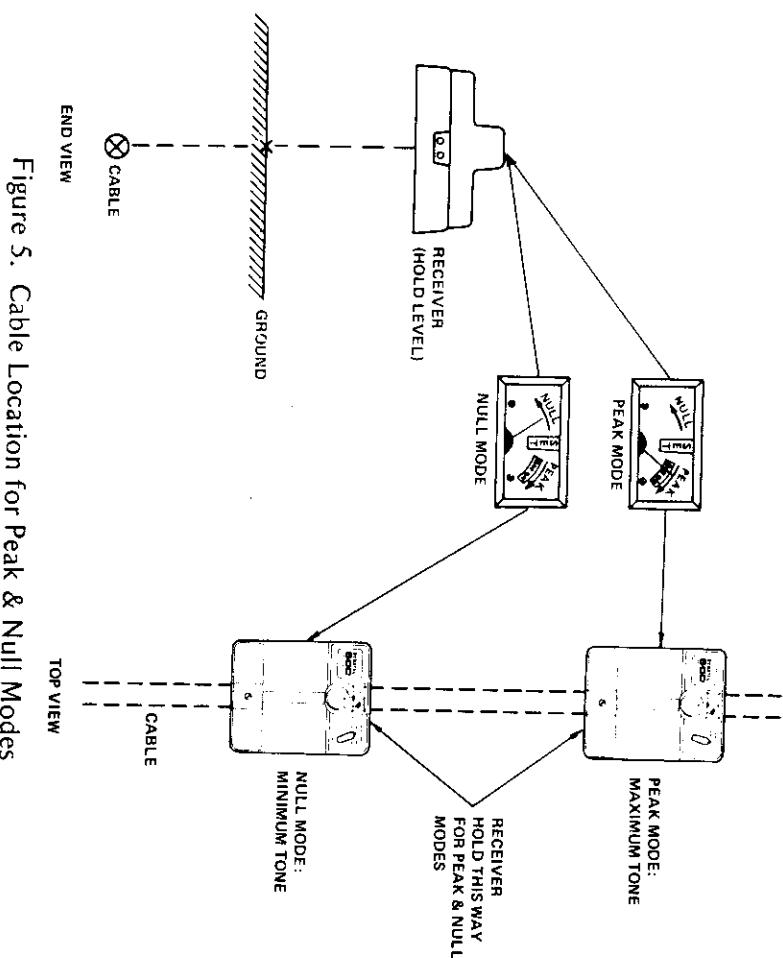

Figure 5. Cable Location for Peak & Null Modes
**Note:** When using the receiver in PEAK mode, be sure that the handle is PARALLEL to the cable run. If you turn the handle so that it is ACROSS the cable run, the receiver output will decrease, and it won't be as accurate. See Fig. 5.
To operate in NULL mode, set the RECEIVER MODE selector to NULL, and bring the receiver into the general area of the cable. The cable can then be located by moving the receiver to the point where the tone is minimum, and the level meter is NULL. FOR BEST RESULTS, HOLD THE RECEIVER LEVEL. When the cable has been located, it can be followed with the receiver in NULL mode. See Fig 5.